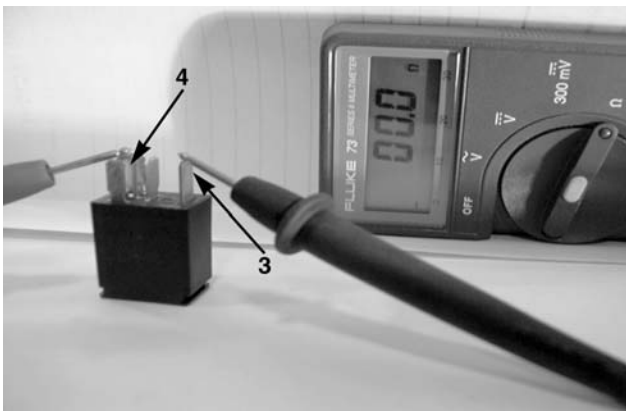

Figure 9-94
–There will be **CONTINUITY**. See Figure 9-94.